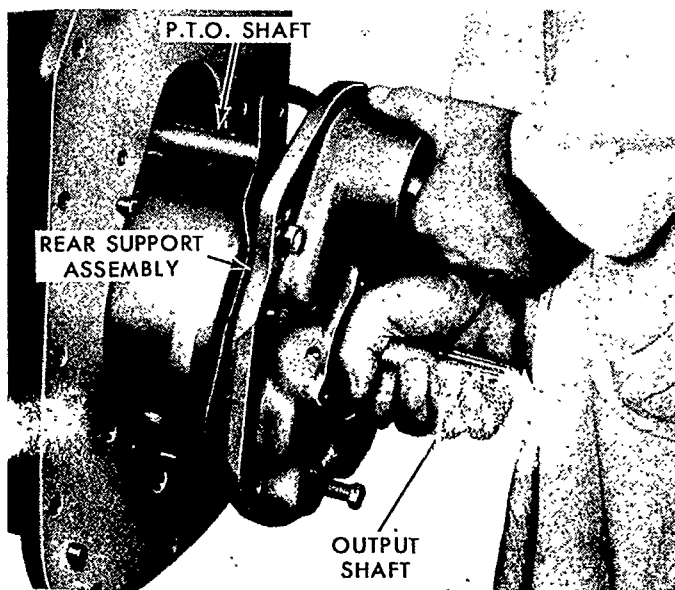

Figure 68
4. Remove the rear support, P.T.O. shaft, output shaft, and "C" ring gear, as shown in Figure 68.